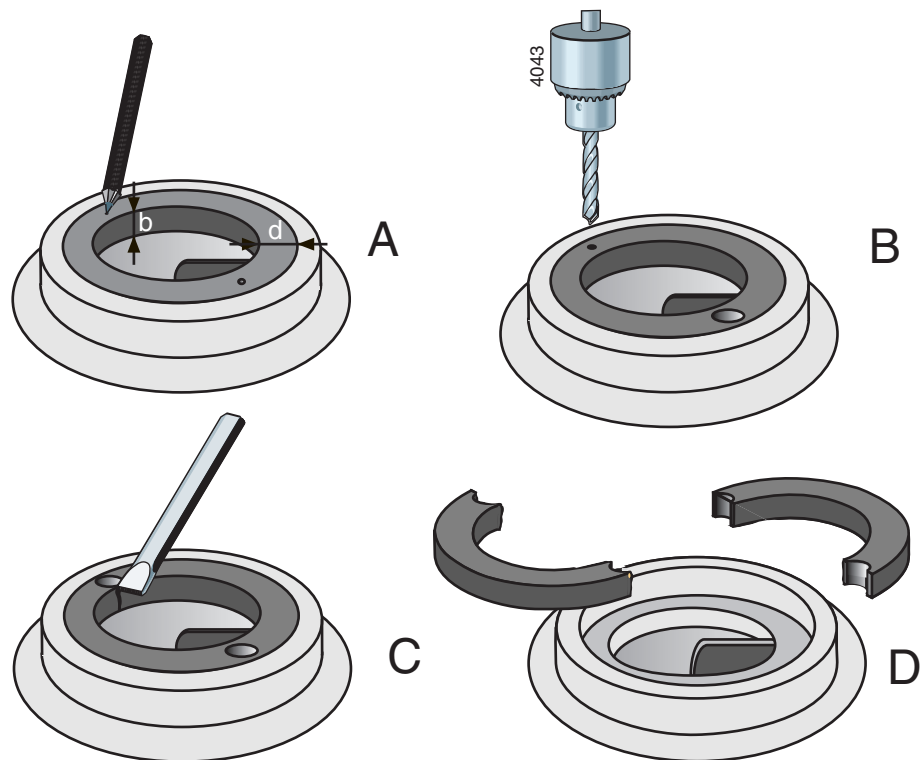

Figure 5: Removal of wear ring.
- 1 Measure the thickness (d) and the width (b) of the ring, see figure 5 A.
- 2 Make a centre hole in the middle of the edge of the ring at two opposite points, see figure 5 B.
- 3 Use a drill with a diameter just a little bit smaller than the thickness (d) of the ring and drill two holes in the ring, see figure 5 C. Don't drill deeper than the width (b) of the ring. Take care not to damage the fitting edge of the pump casing.
- 4 Use a chisel to cut the remaining part of the ring thickness. Now you can remove the ring in two parts from the pump casing, see figure 5 D.